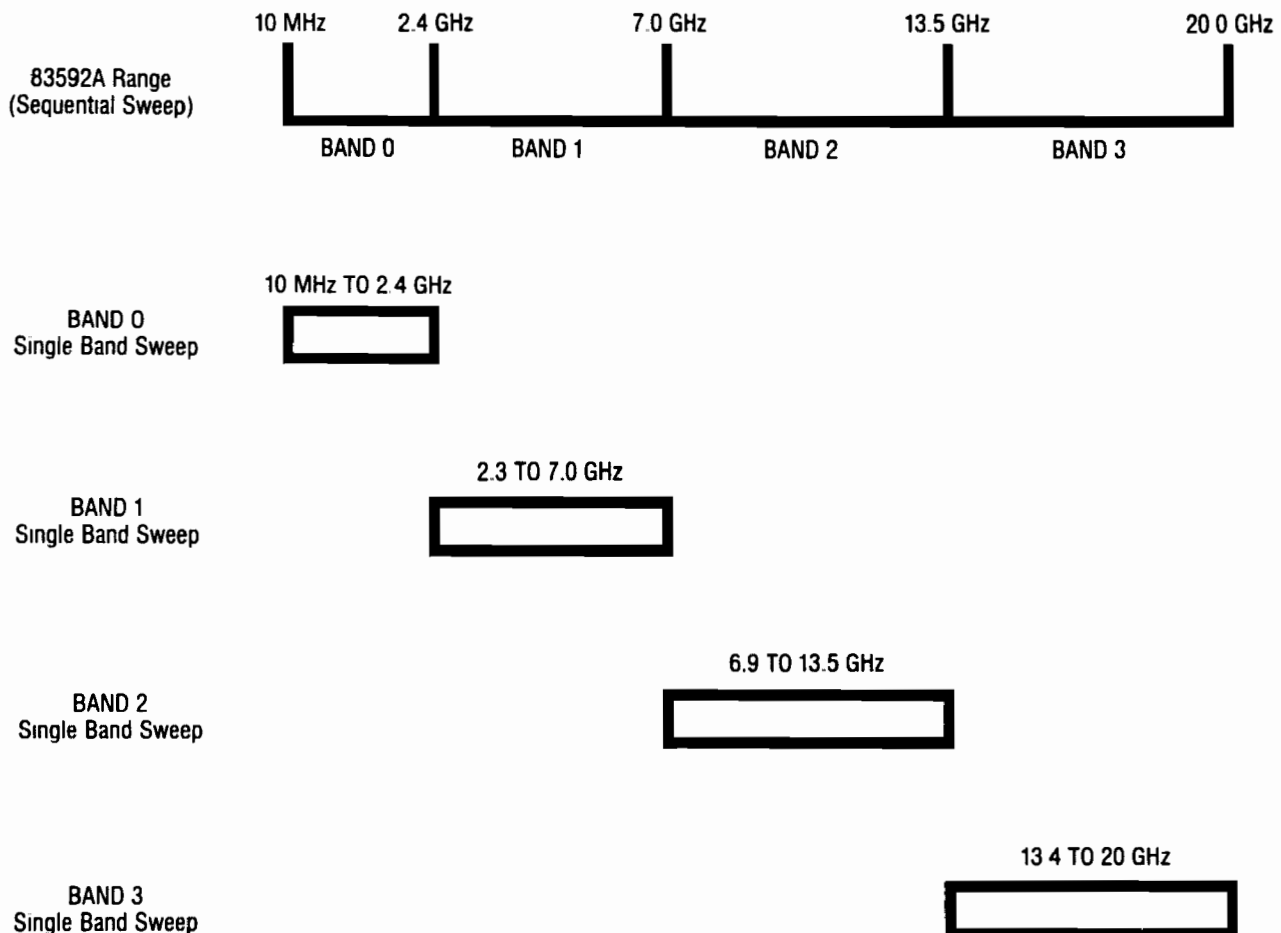

Figure 3-1. Bandswitching in Sequential and Single Band Sweep Modes
The HP 83592A provides an RF output of 0.01 to 20 GHz in four bands. When you sweep a range of frequencies larger than a single band, the switching between these bands is done automatically. Figure 3-1 illustrates the bandswitching points in the sequential and single band sweep modes. Note that if you select sweep frequencies carefully, you can avoid potential problems associated with bandswitching such as harmonics, sweep time, stability, or switching discontinuities.
Figure 3-1 is a simplified block diagram of the frequency tuning circuits in the HP 8350. The net tuning voltage results from the summation of the three DAC outputs. With this DAC configuration the START/STOP sweep mode is computed by the microprocessor into a center frequency (CF) DAC and the vernier DAC, and the sweep width is determined by the ΔF DAC.